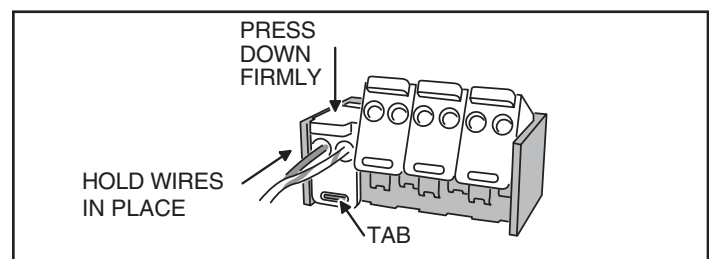

Figure 4. Press the Wire Latches Closed
**STEP 5** Hold the wires completely inserted while pressing down firmly on the clear plastic wire latch. The latch will click twice as the wires are being seated into the internal insulation displacement wire guides. See Figure 4. **VERIFY THAT THE TAB ON THE CONNECTOR BODY IS INSIDE THE TAB SLOT ON THE CLEAR PLASTIC WIRE LATCH.**